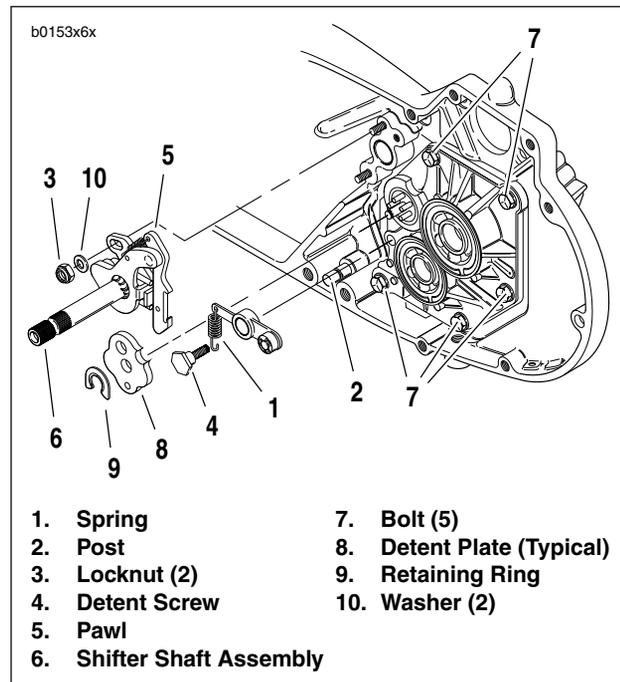

Figure 6-60. Installing Access Door
2. See Figure 6-60. Install access door.
- a. Apply a few drops of LOCTITE THREADLOCKER 243 (blue) to all five access door mounting bolts (7).
3. Lift pawl (5) over drum pins and place shifter shaft assembly (6) on studs at transmission case. Loosely install a washer (10) and locknut (3) on each stud.
4. Attach loop of spring (1) over and into groove in post (2).
- a. Place detent plate (8) over drum pins.
- c. Install **new** retaining ring (9) using SHIFT DRUM RETAINING RING INSTALLER (Part No. HD-39151).